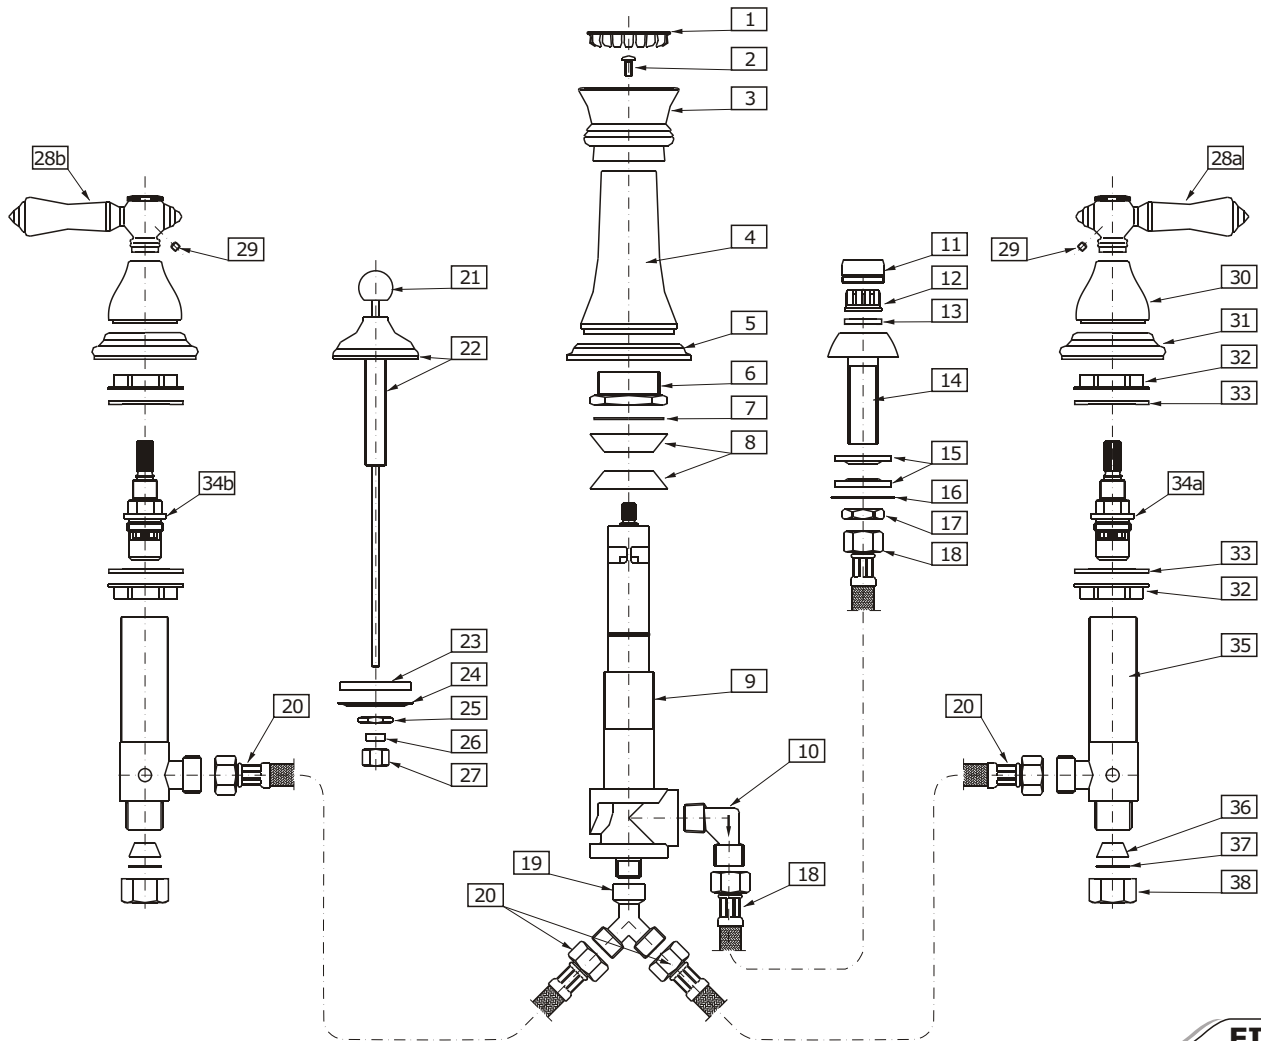

FIG. 1
- ➔ Spin the bottom valve mounting nuts (32) all the way down the valve and remove the top nut and washers. Insert valve (35) up through the hole in the deck, then drop on the washer (33) and the top mounting nut.
- ➔ Connect hose (20 fig.1) to the outlet connection of the valve. The other end of the hose should be connected to T-connection (19 fig.1) after spout installation.
- ➔ Remount handle pieces: First handle base (31). Position base over side hole of mounting surface¹⁾. Second screw shroud (30) onto valve until against base. Do not overtighten.
- ➔ Insert LEFT handle (28b fig.1) on the RED marked valve and RIGHT handle (28a fig.1) on the BLUE marked valve.